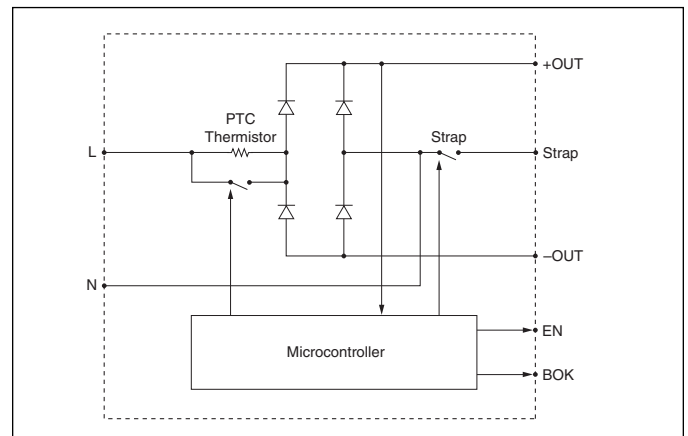
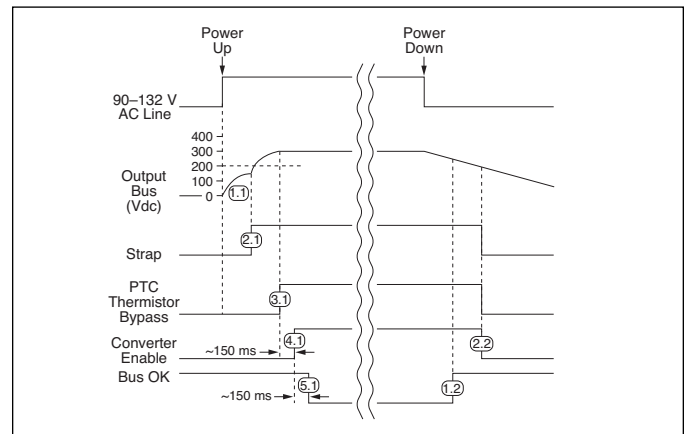

Figure 7-1 — Functional block diagram
Figure 7-2 — Timing diagram: power up / down sequence
**FUNCTIONAL DESCRIPTION (Figure 7-1)**
**Initial Conditions.** The switch that bypasses the inrush limiting PTC (positive temperature coefficient) thermistor is open when power is applied, as is the switch that engages the strap for voltage doubling. In addition, the downstream DC-DC modules are disabled via the Enable (EN) line, and Bus OK (BOK) is high.
**POWER-UP SEQUENCE (Figure 7-2)**
**POWER-DOWN SEQUENCE (Figure 7-2)**